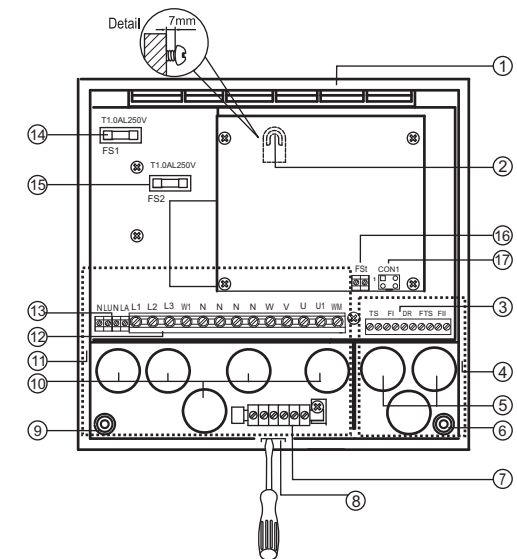
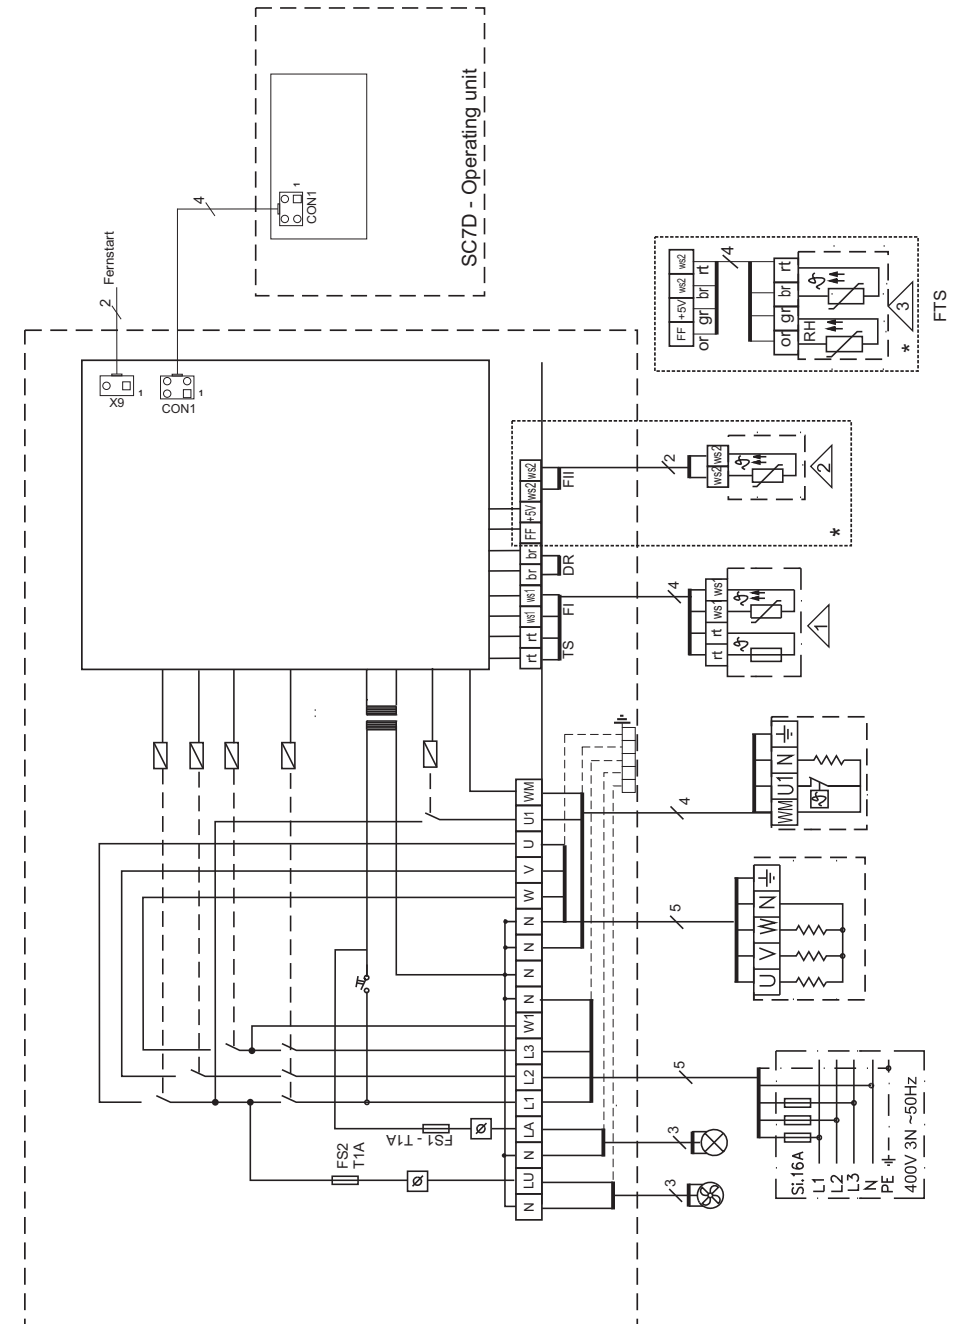

Fig. 6 Installing the power unit
Fig. 9 Circuit diagram
1. Using a slotted screwdriver, carefully press open (Fig. 6/Item 8) and remove the cover.
2. Tighten the screw provided at the intended installation position for the power unit, ensuring a distance of 7 mm between the cabin wall and head of the screw (see Fig. 6 for details).
3. Hang the housing on the installed screw (see Fig. 6/Item 2).
4. Once you are finished connecting the electrics (see Section 5.1), tighten the two screws (Fig. 6/Item 6 and Item 9).
1. Guide the lines for the stove sensor (F1) and the bench sensor (FTS2) through the holes (Fig. 6/Item 5) into the low-voltage section (Fig. 6/Item 4) and connect them to the terminal (Fig. 6/Item 3) in accordance with the circuit diagram (Fig. 9).
2. Guide the lines for the (optional) door contact switch through the holes (Fig. 6/Item 5) into the low-voltage section (Fig. 6/Item 4) and connect them to the terminal (Fig. 6/Item 3) in accordance with (Fig. 9). Note: The door contact switch is not included in the scope of supply. A jumper is installed on terminal "DR" at the factory.
3. Guide the data lines for the control unit through the holes (Fig. 6/Item 5) into the low-voltage section (Fig. 6/Item 4) and connect them to the terminal (Fig. 6/Item 17) in accordance with (Fig. 9).
4. Guide the lines for the fan and light through the holes (Fig. 6/Item 10) into the 230/400 V voltage section (Fig. 6 /Item 11) and connect them to the terminal (Fig. 6/Item 13) in accordance with (Fig. 9).
5. Guide the lines for connecting the sauna stove (and if applicable: the evaporator) through the holes (Fig. 6/Item 10) into the 230/400 V voltage section (Fig. 6/Item 11) and connect them to the terminal (Fig. 6/Item 12) in accordance with (Fig. 9).
6. Connect the earthing cable to the terminal (Fig. 6/Item 7).
The sc-1-black sauna control can be used to control up to three circuits with a maximum power of 3.5 kW. Optionally, the control can be increased to 18 kW-30 kW with a power extension (connection: terminal W1, Fig. 6/Item 12).
If using a door contact switch, install it in accordance with the instructions provided by the manufacturer. The door contact switch is connected to the terminal DR (see Fig. 6/Item 3). A jumper is installed on terminal "DR" at the factory.
If using a switch to trigger remote start, connect it to terminal "FSt" (see Fig. 6/Item 16).